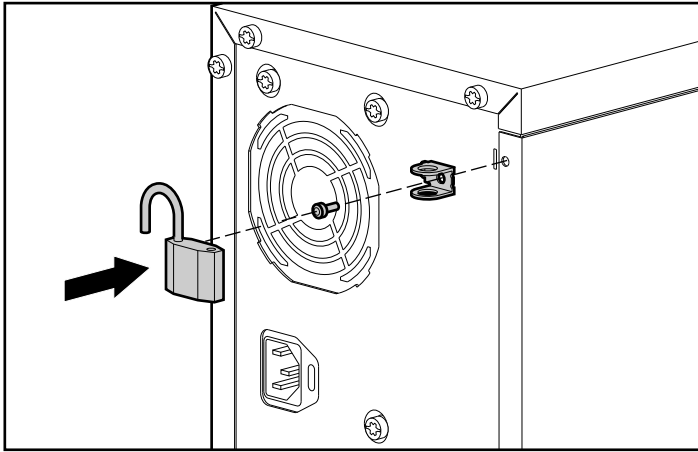

Figure 2-2. Securing the system with a user-supplied padlock
2. If desired, the side access panel can be locked (with a customer-supplied padlock) to prevent unauthorized access to system components. See Figure 2-2 for information.